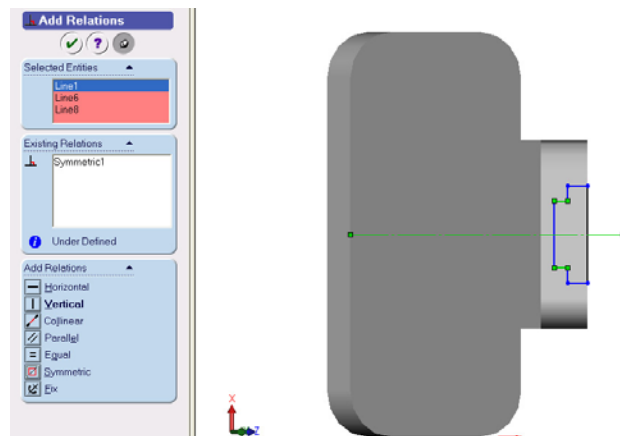

Figure 13 Slot sketch
7. Select **Dimension**  on the Sketch Relation toolbar, and dimension the sketch as shown in Figure 13. The sketch will be fully constrained. If not, apply more constraints.